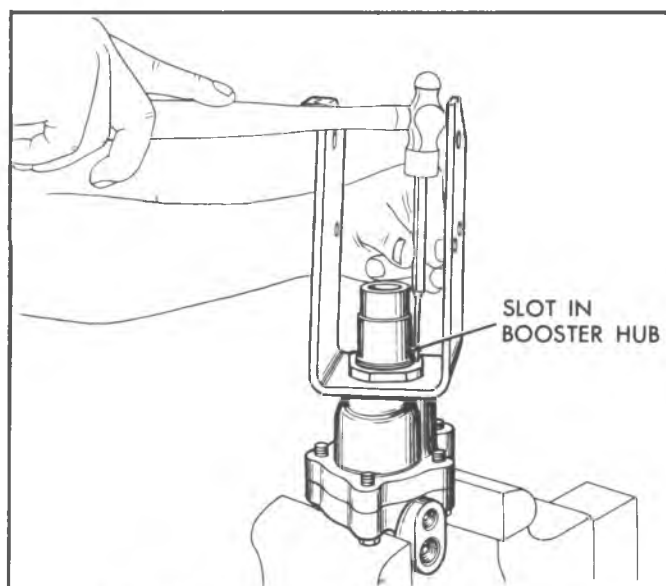

Fig. 11--Staking Mounting Bracket Nut (Typical)
15. Use a hammer and a small punch inserted into the staking groove of the nut, at the slot in the booster hub (fig. 11), to stake the nut in place. Be sure that the outer thread of the nut is upset.